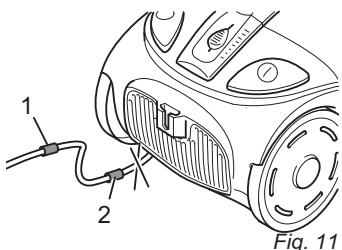
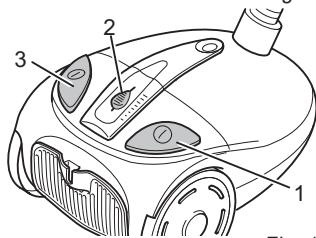

Fig. 11
Fig. 12
2. Remove the cable, by holding the plug, until the yellow mark is reached (Fig. 11/1).
If the red mark (Fig. 11/2) is visible, use the cable retract button (Fig. 12/3) to draw in the cable again up to the yellow mark. Otherwise the cable can break off. There is a risk of electric shock.
3. Switch on the cylinder vacuum cleaner using the on/off switch (Fig. 12/1).
4. Turn on the suction using the suction controller (Fig. 12/2).